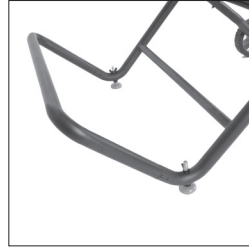

Fig. 25
- Grasp the transportation handle (**Fig. 25**).